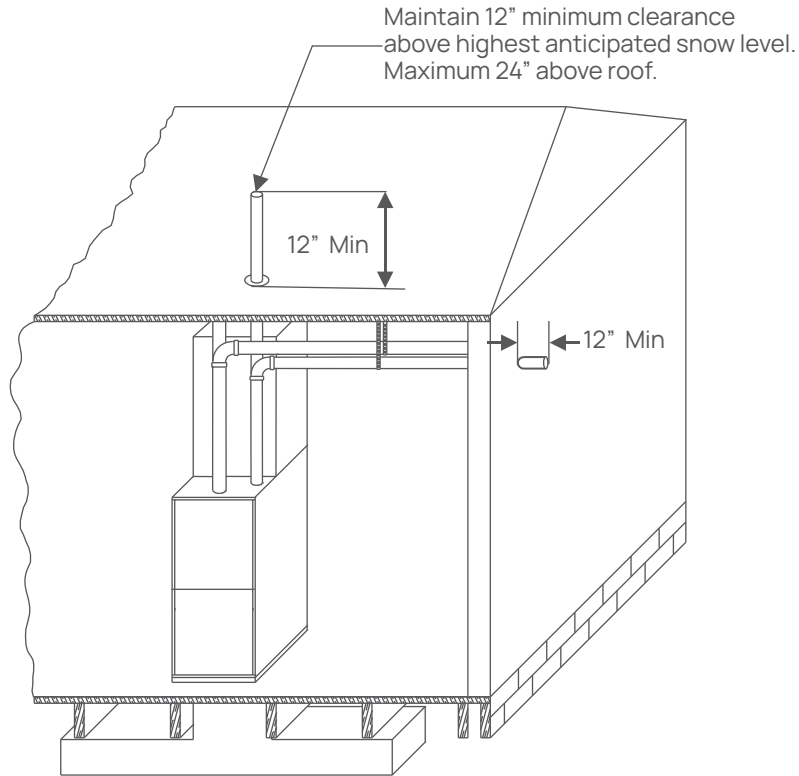
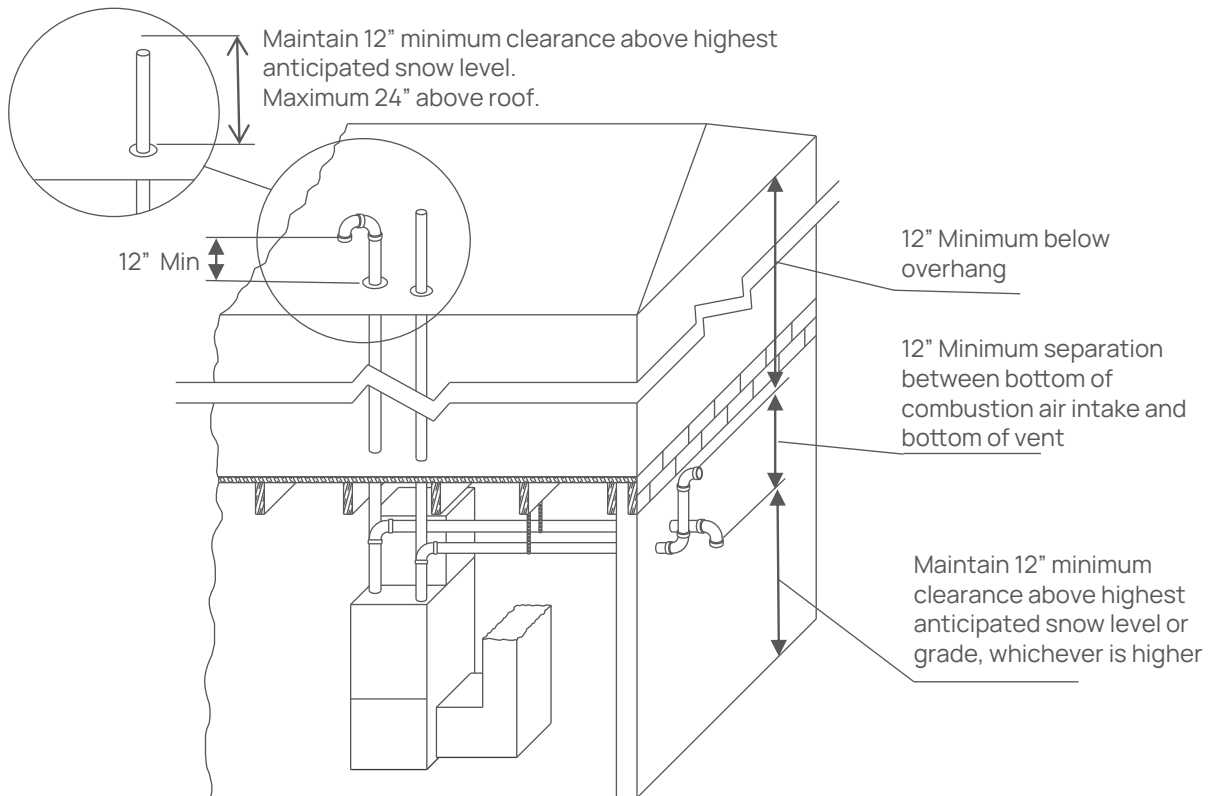
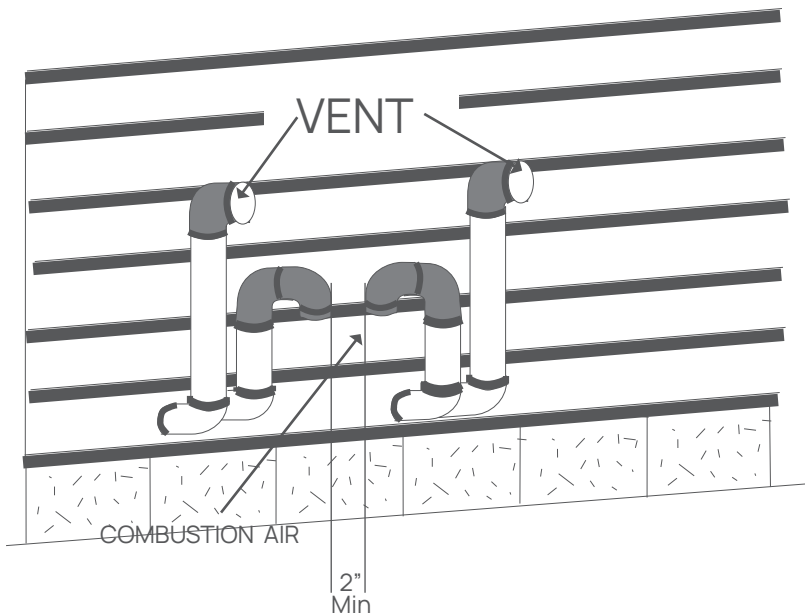

Fig. 24 Termination Configuration - 1 Pipe
Fig. 25 Termination Configuration - 2 Pipe
Fig. 26 Double Horizontal Combustion Air Intake and Vent Termination
7. Direct vent systems must be installed so the vent and the combustion air pipes terminate in the same atmospheric zone. Refer to Figures 24.
The combustion air side of the single pipe configuration shown in Figure 20 is referred to in these instructions as ambient combustion air supply. Follow the instructions for ambient combustion air installations, paying particular attention to the section on air source from inside the building. The vent for a single pipe system must be installed as specified in the venting section of these instructions with the vent terminating as shown in Figure 20. Each furnace must have a separate vent pipe. Under NO in Figure 24 Figure 25 . Each furnace must have a separate vent pipe. Under NO circumstances can the two vent pipes be tied together.
The combustion air side of the two-pipe configuration shown in Figure 24 Figure 25 can be installed so the combustion air pipe terminates as described in outdoor combustion air or ventilated combustion air sections in these instructions. Follow the instructions for outdoor combustion air or ventilated combustion air and the instructions for installing the vent system with the vent terminating as shown in Figures 26 or 27. The two-pipe system must have a separate combustion air pipe and a separate vent pipe for each furnace.